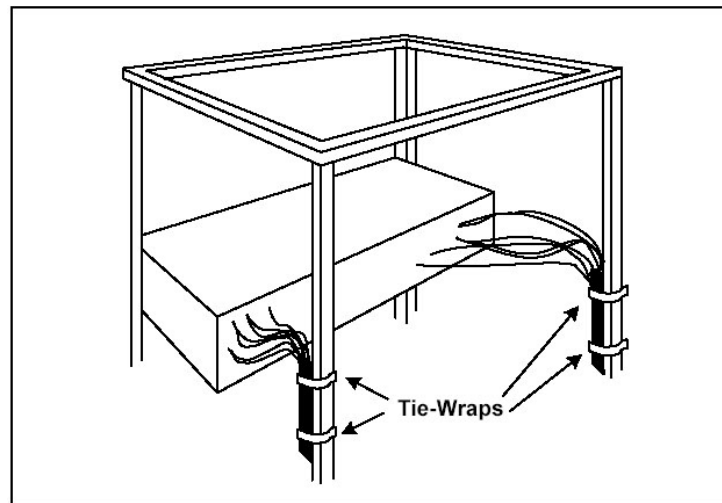

Figure 5. Cabling
2. Provide proper support for each cable during the cabling process. The use of tie-wraps is recommended, as shown below in Figure 5.